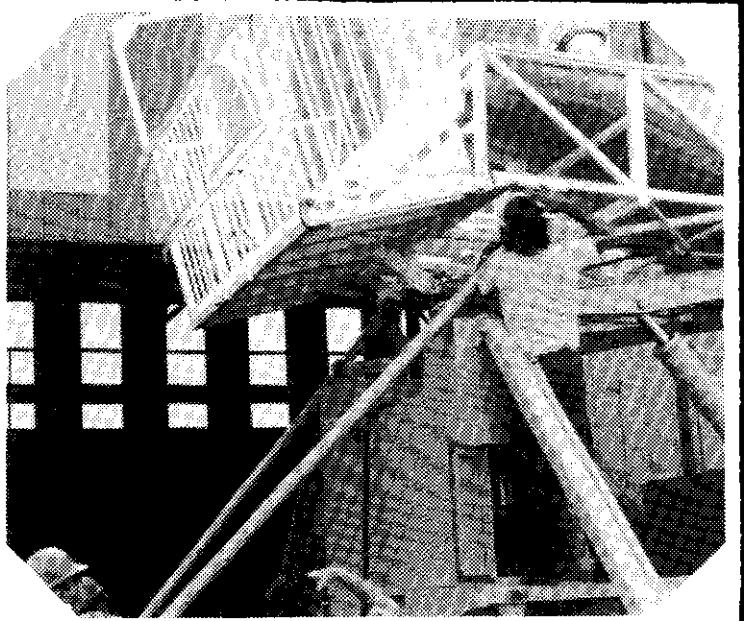

FIG. 8
8. Now remove the upper section stabilizing braces from both sides of the ride and attach them to the upper section. (Fig. 8)